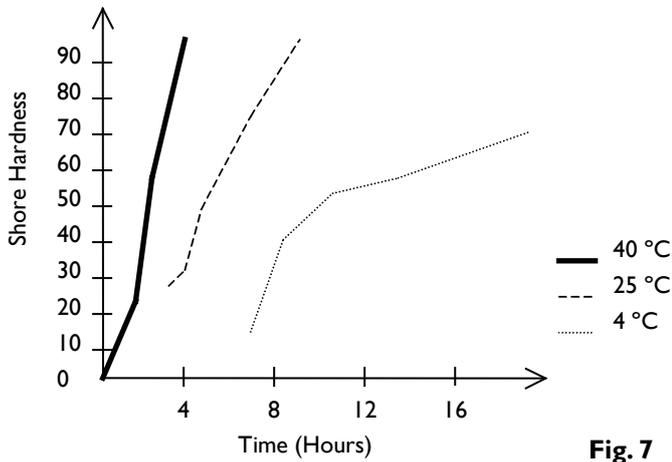

Fig. 7
Spread the out the cable cores and the individual strands of uninsulated conductors for the compound packing. Pack the compound between the cores and strands as shown. See notes overleaf and Fig. 7 for compound preparation.
Allow the compound to cure. (See Fig. 7 for Curing Times). Untighten firstly the backnut ① from ② and secondly the middle nut ② from the entry ⑤. Check that compound has cured.